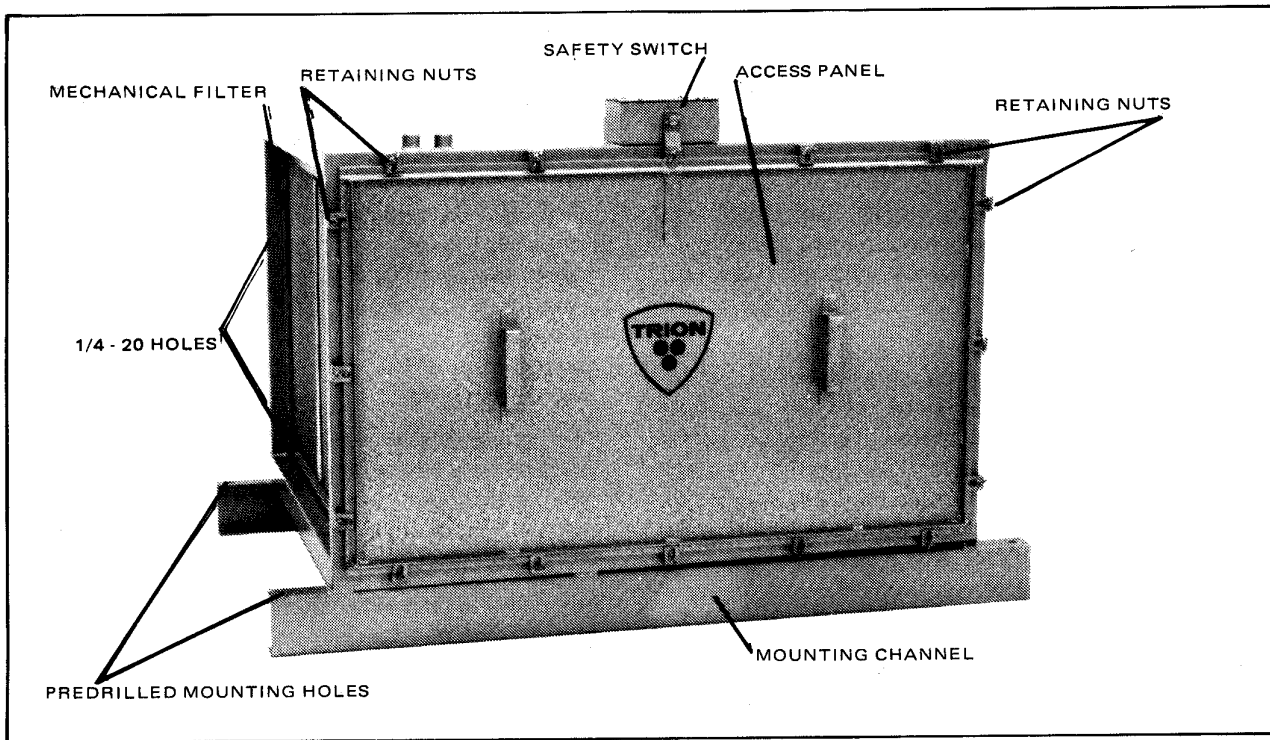
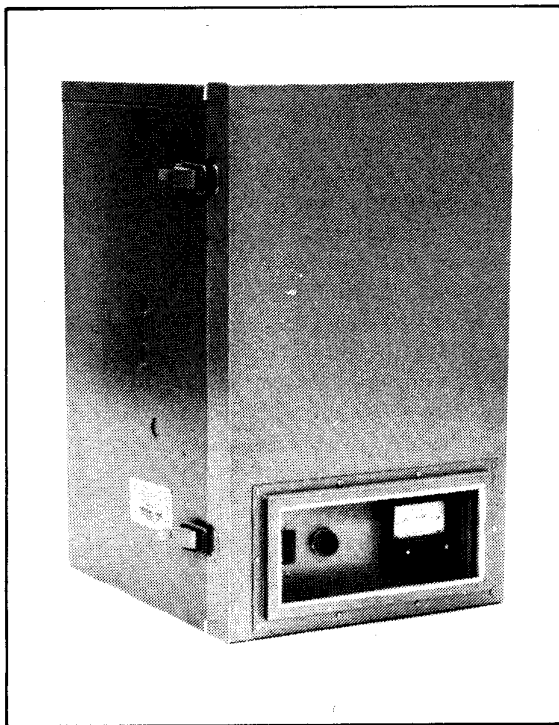

Fig. 2 Model 49 Type IMP
Fig. 3 Power Pack
Normally, the shipment includes one container. The power pack; high voltage leads (See Figures 3 & 4); instructions; and, the precipitator cabinet, complete with mechanical filters and ionizing-collecting cells. (See Figure 2)
1. Be sure both safety switches, power pack and precipitator access panels are closed. (See Figures 2 and 7)